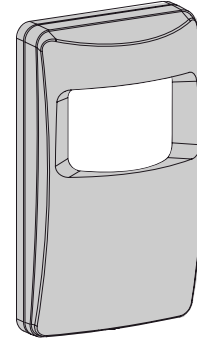

Figure 1. General View
- Loosen and remove the screw at the bottom of the case (see Figure 1) and then take the cover off.